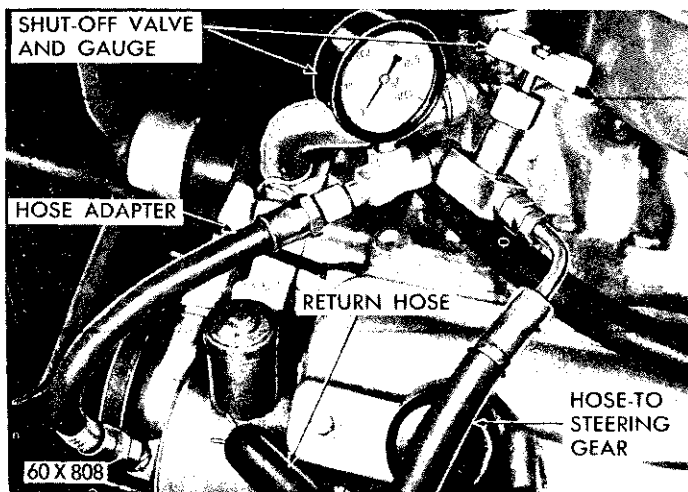

Fig. 19—Pressure Testing Pump and Steering Gear
(3) Check the pump belt tension.
(4) Disconnect the pump to the steering gear pressure hose at the power steering pump. Connect the test hose Tool C-3388 with the proper adapters between the power steering pump and the pressure gauge Tool C-3309B with the shut-off valve between the pressure gauge and the pressure hose that you disconnected from the pump (Fig. 19). **Make sure all connections are tight and that the shut-off valve is fully opened.**
(5) Start the engine and operate at idle speed (500 rpm).
(6) With the engine operating at idle (500 rpm) and oil temperature between 150 degrees F. and 170 degrees F. (checked with thermometer in the reservoir) the pressure gauge should show a pressure of 55 to 80 psi. If the pressure is higher, check the hoses and connections for kinks and obstructions, check the pump or flow control valve for faulty operation.
(7) Increase the engine speed to 1000 rpm, then slowly close the gauge shut-off valve. The pump pressure should be 950 to 1150 psi with the gauge shut-off valve fully closed.